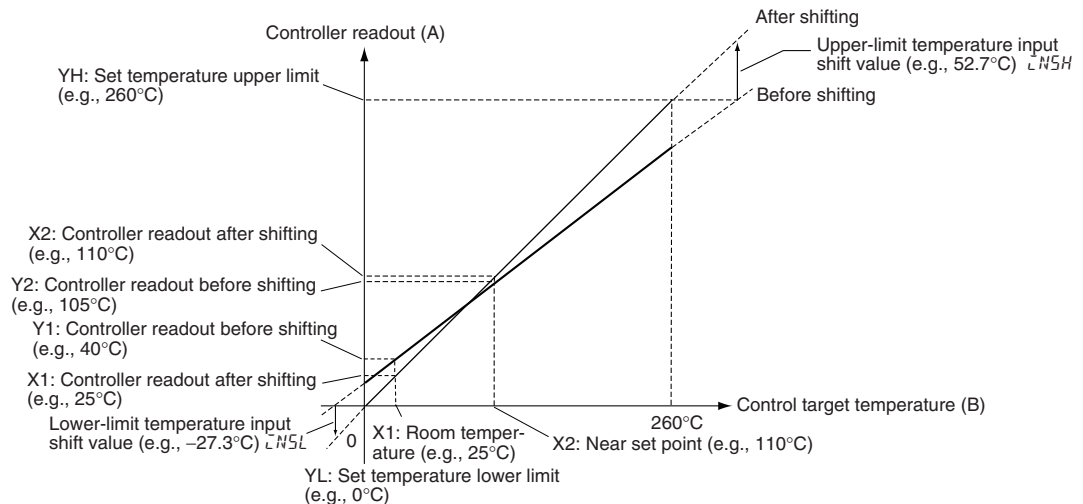

Figure 3 Illustration of 2-Point Shift
1. Shift the Controller readout at two points, near room temperature and near the value at which the temperature of the control target is to be controlled. For this reason, check the thermometer temperature (B) and Controller readout (A) with the thermometer temperature near room temperature and near the set point.
- Set the upper-limit temperature input shift and the lower-limit temperature input shift using the following formulas based on the temperatures before shifting (Y1 and Y2), the temperatures after shifting (X1 and X2), the set temperature upper limit (YH), and the set temperature lower limit (YL). The shift is illustrated in *Figure 3*.